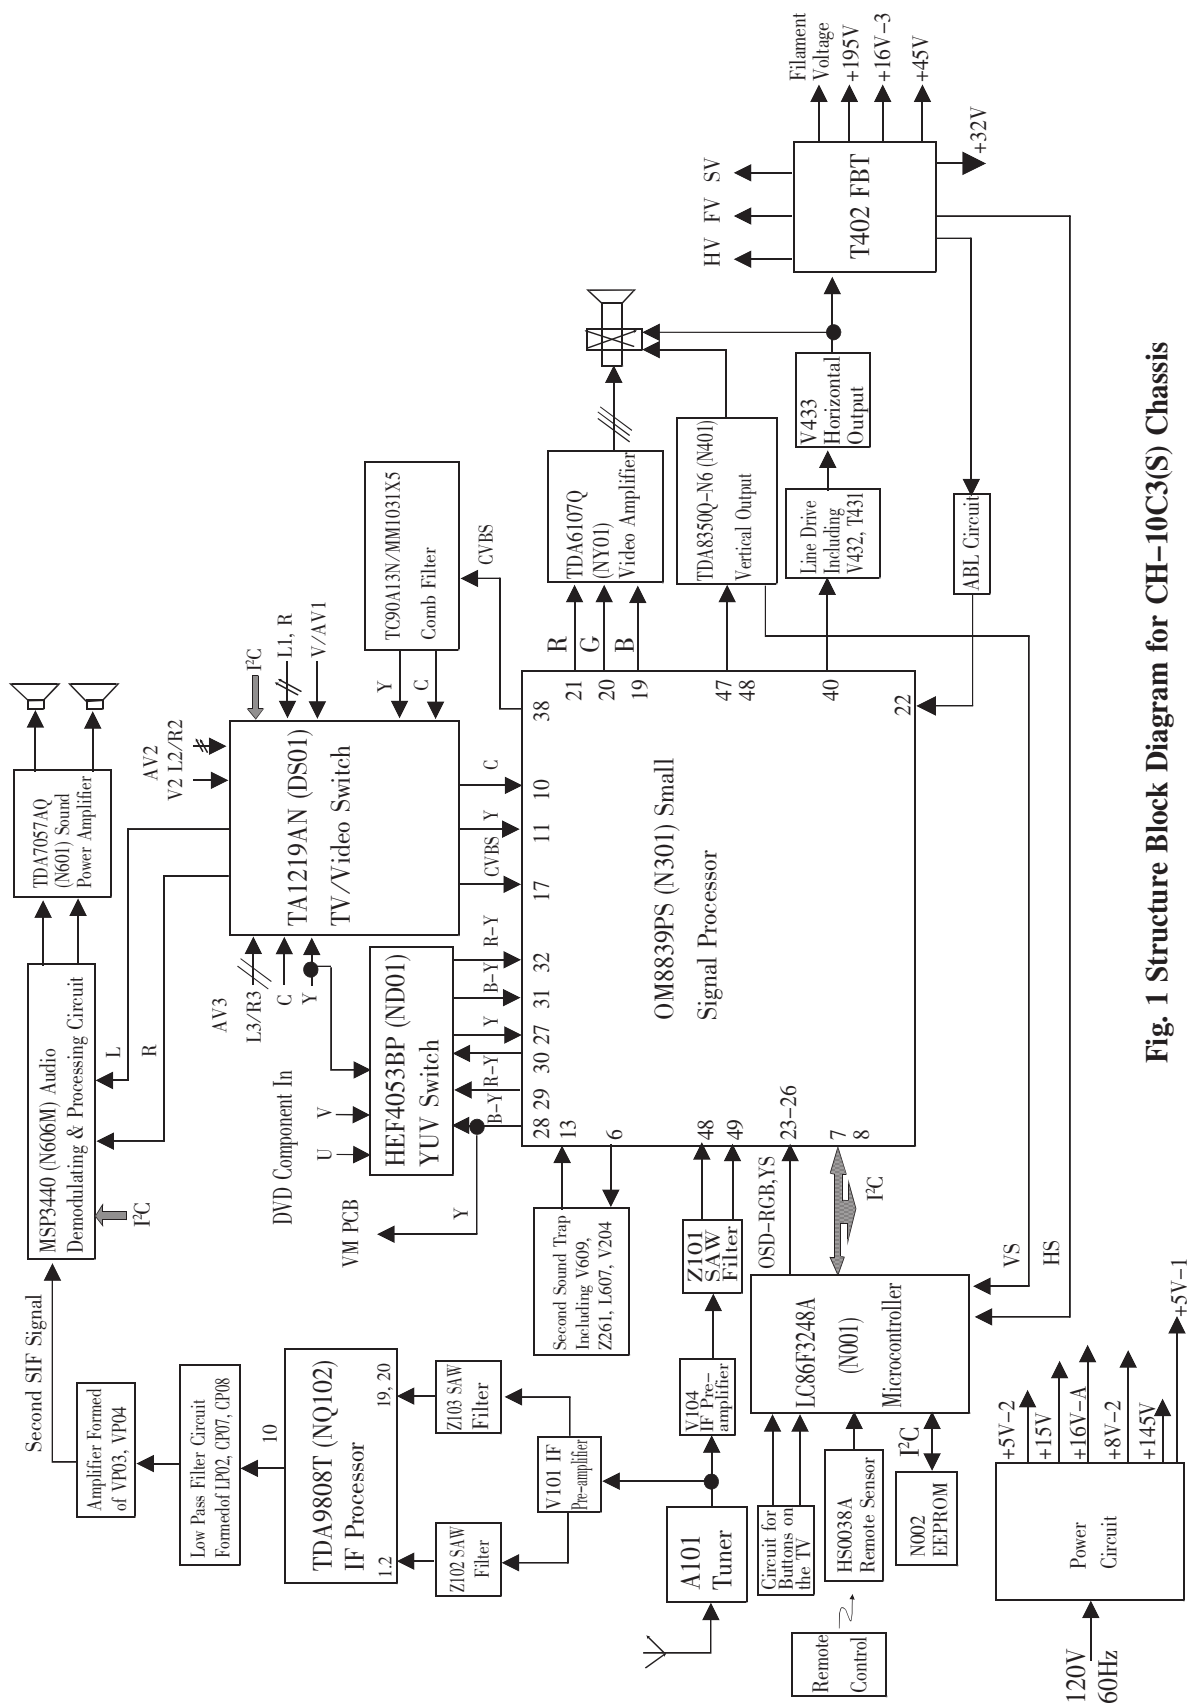

Fig. 1 Structure Block Diagram for CH-10C3(S) Chassis
CH-10C3(S) chassis mainly consists of an OM8839PS small signal processor together with a TC90A13N comb filter, MSP3440 audio demodulating and processing circuit, TDA8350Q-N6 vertical output circuit, TDA7057AQ audio power amplifier, TA1219N TV/Video switch circuit, TDA9808T IF signal processor and TDA6107Q video amplifier. The following give descriptions of signal flow process for the chassis on basis of PF2025's tuner, video signal processor, audio signal processor and scan signal processor. Refer to Fig.1 about signal process of PF2025.